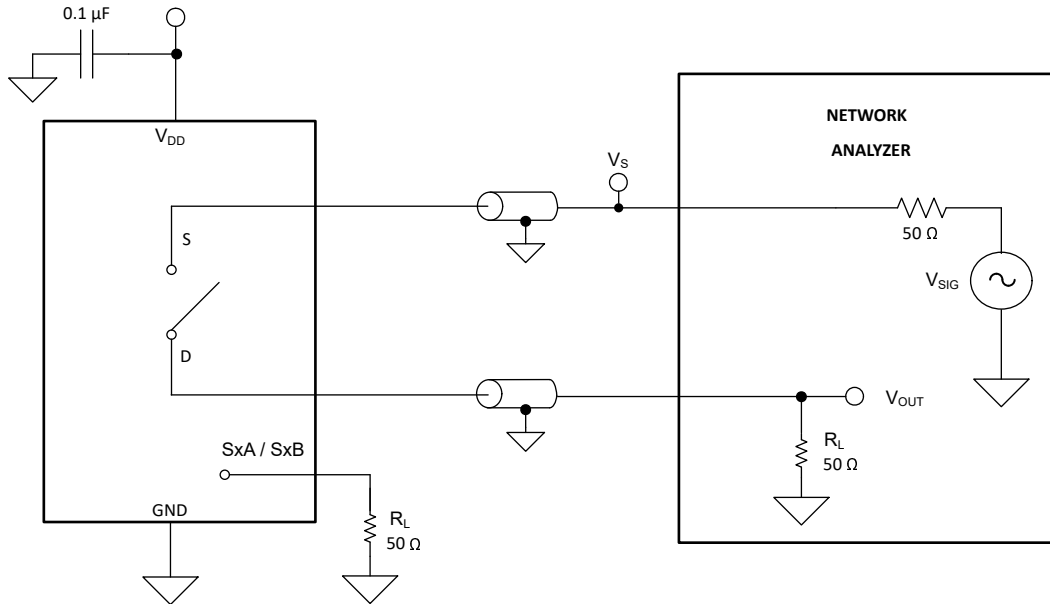

Figure 6-13. Off Isolation Measurement Setup
Off isolation is defined as the ratio of the signal at the drain pin (D) of the device when a signal is applied to the source pin (Sx) of an off-channel. Figure 6-13 shows the setup used to measure, and the equation used to calculate off isolation.